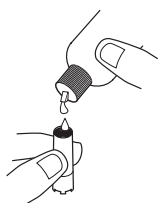

Figure 7
5. Fill a new membrane cap about $\frac{3}{4}$ full with the electrolyte solution (see **Figure 7**). Ensure that the inner surface of the membrane does not have bubbles on it. To remove bubbles, hold the membrane cap and tap the side of the cap with your finger. This should cause any bubbles to rise to the surface and away from the membrane.